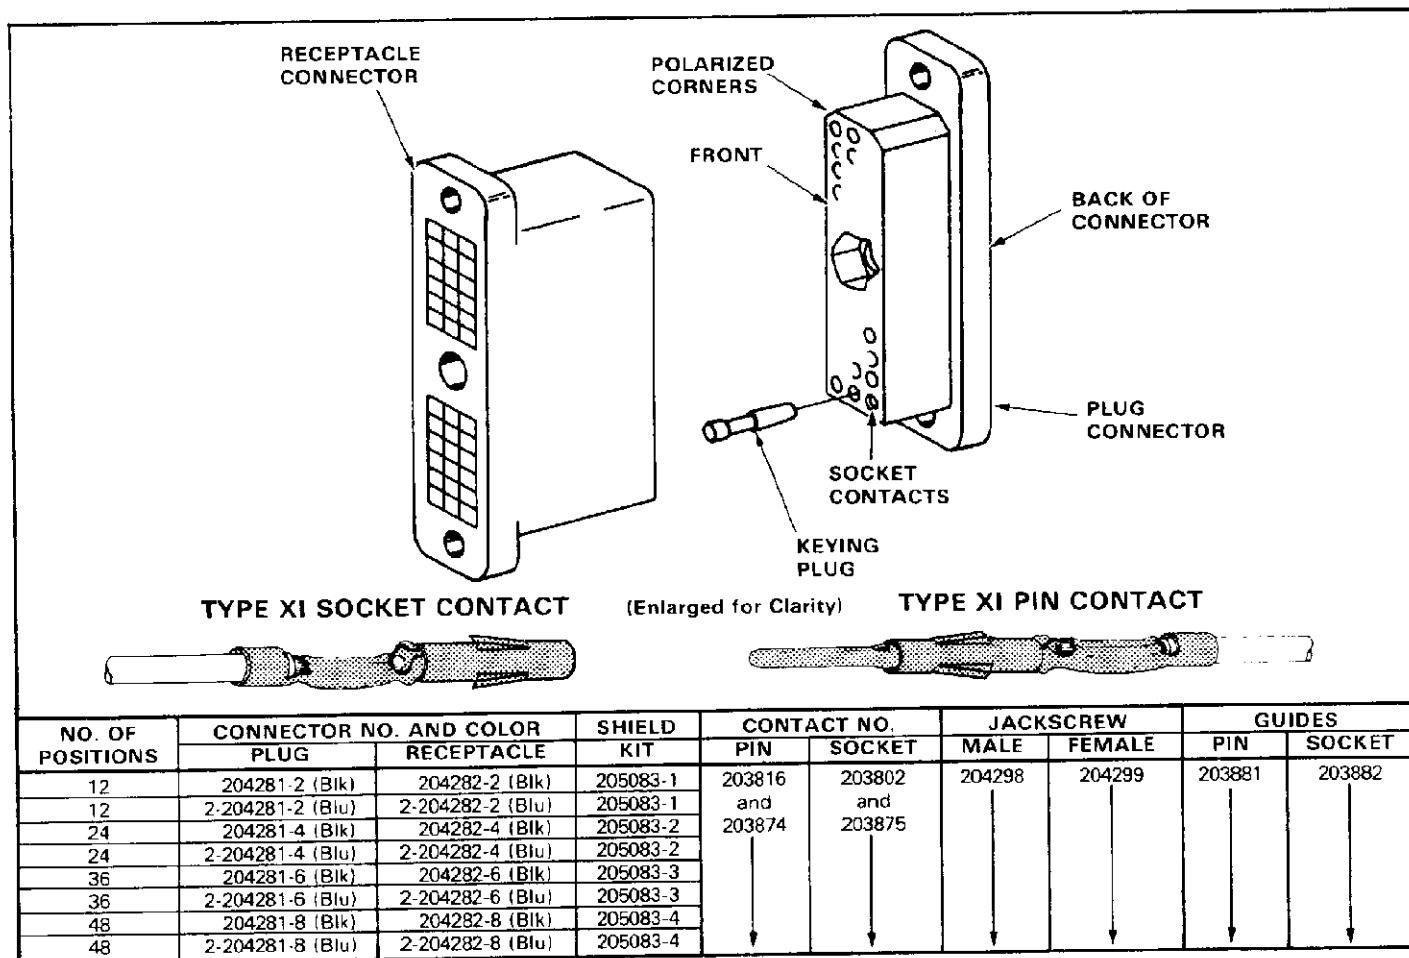

Fig. 1
The applicable Type XI contacts, shield kits, jackscrews, and guide pins are listed in Figure 1. Read these instructions thoroughly before assembling the connectors.
9. KEYING PLUGS (Figure 1)